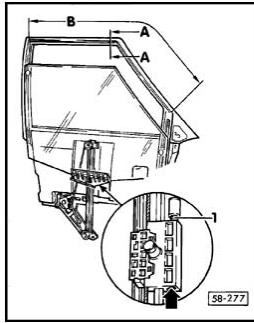

Fig. 1 Adjusting door glass
- Center oblong hole of window on drive pin, watching contact area B => Fig. 1
- Seal inner lip -1- must lie against top edge, area B => Fig. 1, of glass -2- with pretension -a-.
▲ Fig. 1 Removing and installing bowden cable for door remote control
Door handle trim must be removed before removing door handle to prevent damage to print on handle trim => Fig. 1